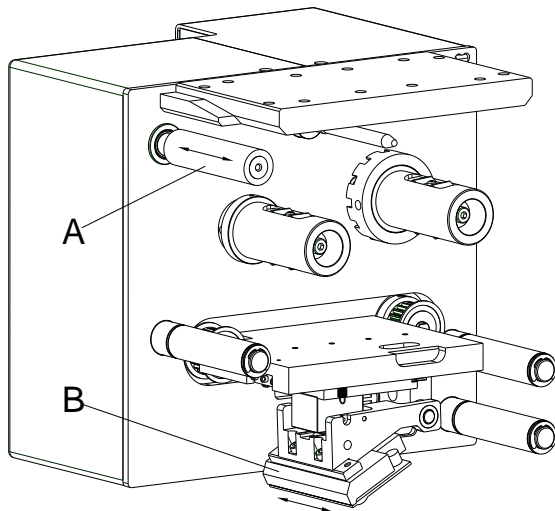

Figure 18
2. Clean the printhead surface (B, Figure 18) with a special cleaning pen or a cotton swab dipped in pure alcohol.